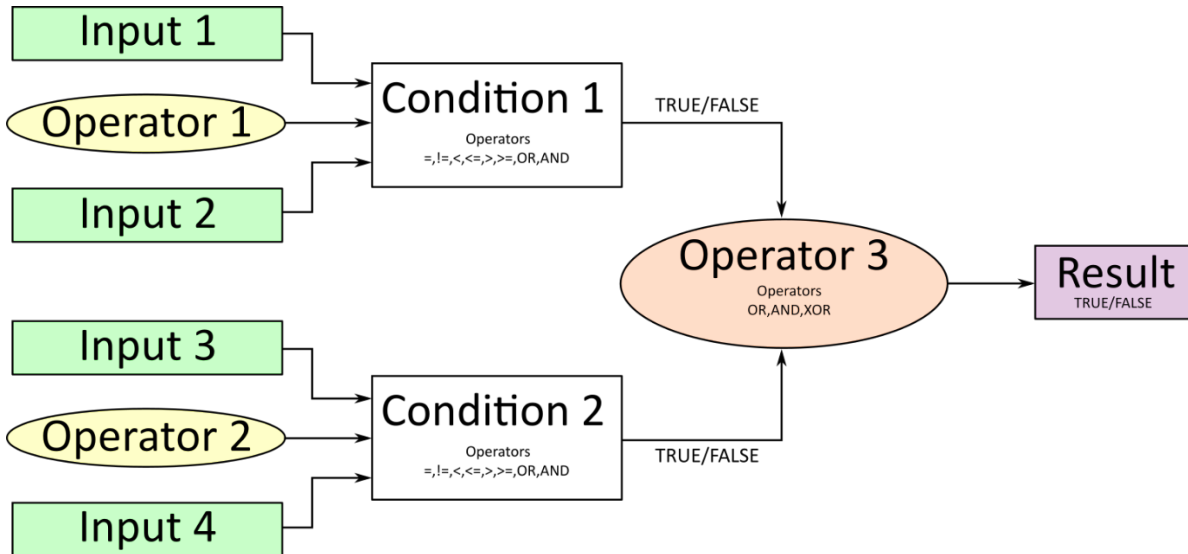

Figure 12 - Conditional Block Diagram
The Conditional Block compares up to four different input sources with different logical or relational operators. The result of each block can therefore only be **true** (1) or **false** (0). Figure 12 demonstrates the connections between all parameters.